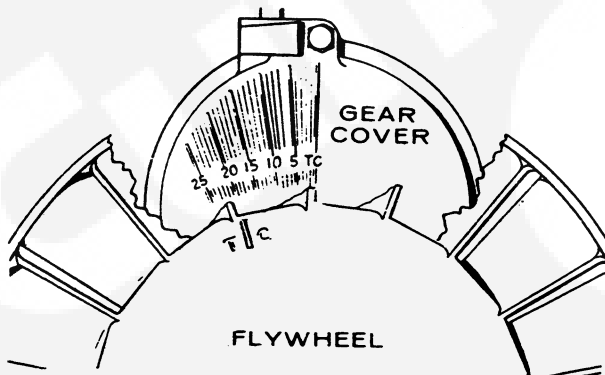

FIGURE 29. IGNITION TIMING
2. Start the engine and check the timing. The TC mark on the flywheel should line up with the specified degree mark (see *SPECIFICATIONS* for correct ignition timing) on the gear cover (Figure 29).